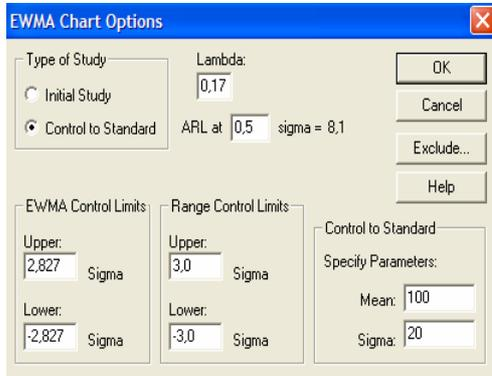

Figure 10 - Step B7
7. We change value next to ARL from 0 to 0,5 (see δ in the step 2) and the program immediately computes $ARL(\delta) = 8,1$ (see Fig. 10). That means that the EWMA chart